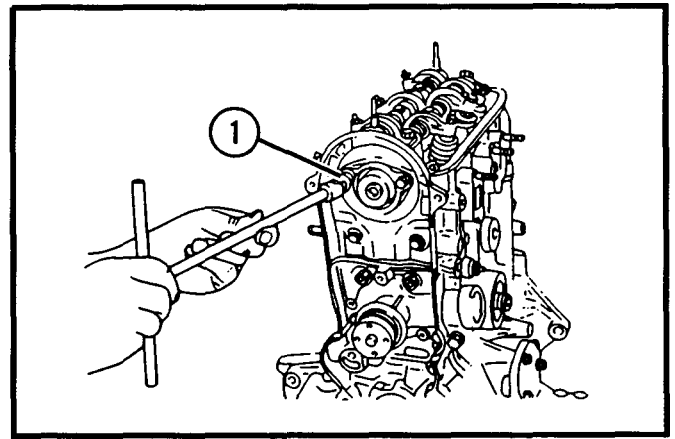

Figure 4.
8. Remove the rear timing belt cover. See Figure 4.